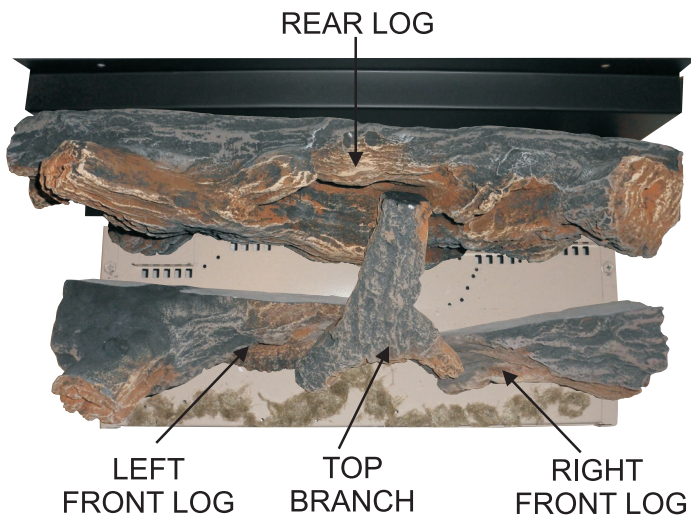

Figure 25 - Log Placement - Top View (DVP20CC Shown)
5. Place ember material on front burner ports as shown in **Figure 25**.
*Place ember material on front burner ports as shown in **Figure 25**.